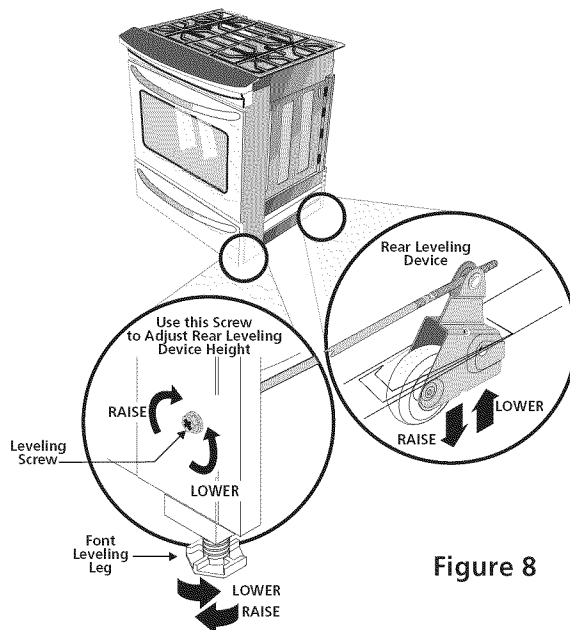

Figure 8
2. Adjust the appliance legs as follows until the underside of the cooktop (or cooktop glass) surface is sitting level on the countertop (Figure 8).